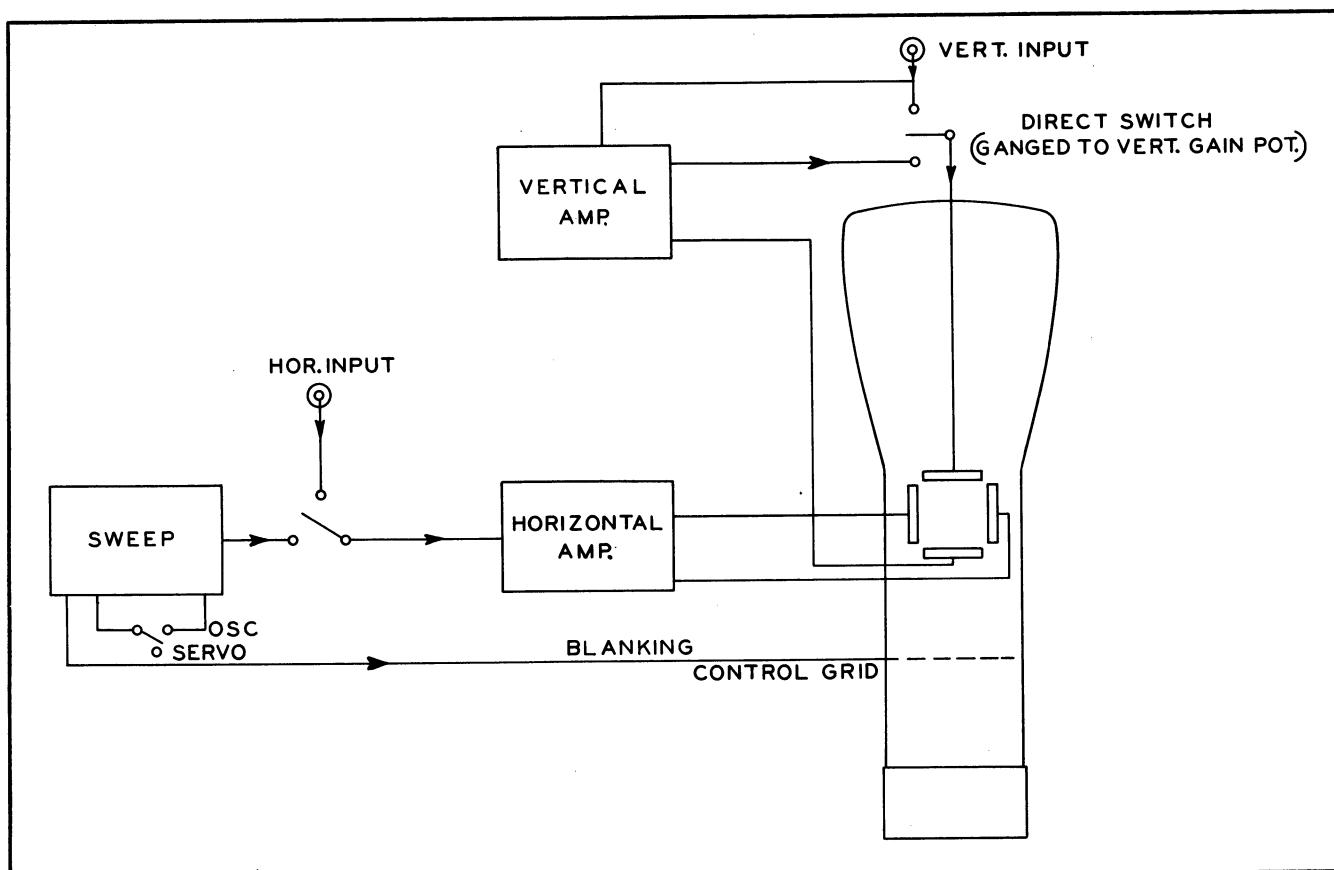

Figure 4-29. Block Diagram of CRO Channel
(4) In the self-oscillatory condition, this process repeats with negligible time between sweeps. (See fig. 4-29.) In the servo condition, however, the sweep is not repeated until the next triggering pulse appears at the synchronizing tubes. This waiting time between sweeps corresponds to zero bias at $Vg-1$. Tube (2) is induced to wait in the servo condition by means of overbias controlled by switch S-702 (fig. 8-5) which throws $R-609$ in and out of parallelism with $R-605$.
(5) A square wave is taken from potentiometer $R-602$ in the multivibrator and is applied to the grid of the cathode ray tube. This square wave is timed to begin and end with the sweep and raises the cathode ray tube grid to a point where conduction occurs only during the forward sweep. The negative portion of the square wave blanks out the return trace.
(6) This chassis contains a circuit for the introduction of external synchronizing voltage. This voltage is amplified and applied to the multivibrator in such a fashion that it controls the period of oscillation of the multivibrator. Thus the sweep will be timed by the ex-